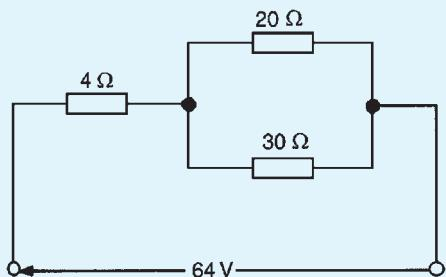

Figure 5.31
7. (a) Calculate the current flowing in the  $30\ \Omega$  resistor shown in Fig. 5.31 (b) What additional value of resistance would have to be placed in parallel with the  $20\ \Omega$  and  $30\ \Omega$  resistors to change the supply current to 8 A, the supply voltage remaining constant.